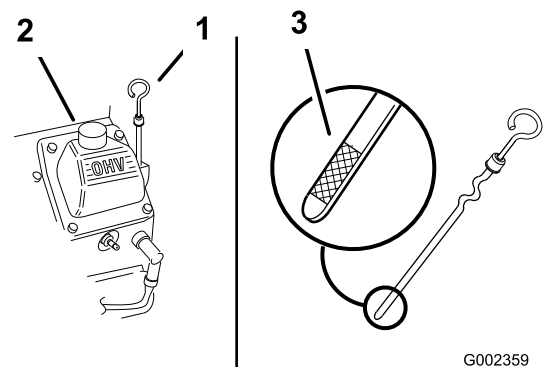

Figure 16
2. Clean around the oil dipstick (Figure 16) so dirt cannot fall into the filler hole and damage the engine.
3. Remove the dipstick, wipe it clean, and install until it is fully seated (Figure 16).
The oil level should be up to the Full mark on the metal end of the dipstick (Figure 16).
5. If the oil level is below the Full mark, remove the filler tube cap (Figure 16) and add oil until the level reaches the Full mark on the dipstick. **Do not overfill.**